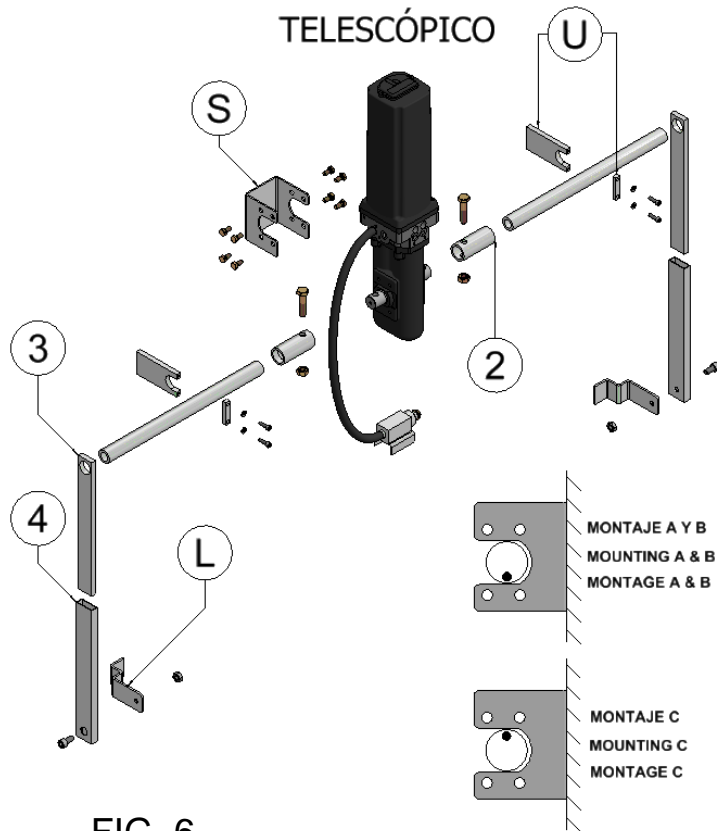

FIG. 6
### Installation accessories Figure 6.
1. Fix motor support "S" shown in figure 6 on the door in the position shown in figures 2, 3 or 4, depending on the mounting type.
3. Insert part "2" of figure 6 10mm into a transmission bar O/D 28mm and weld. This bar is not supplied with the mounting kit. (It is recommended that this bar is a pressure tube with wall thickness 4 or 5mm).
4. Position part "U" of figure 6 as shown in figures 2,3 or 4 such that the transmission bars are completely in line with the axis of rotation of the operator.
5. Fix supports "L" of figure 6 as shown in figures 2,3 or 4, depending on the mounting type.
6. Mount parts "4" of figure 6 to support "L" of figure 6 and insert parts "4" with part "3" of figure 6.
7. Insert the transmission bars welded to part "2" in the hole of part "3" figure 6. Mount the transmission bars in the operator and fix them with parts "U".
8. The point marked on the rotary shaft on the right-hand side of the operator 1RM\* and 2RMI\* must be as shown in figure 6, depending on the mounting type. Before welding parts "3" to the transmission bars the operator should be rotated approximately 5 degrees away from the end position. With the door completely closed, proceed to weld.
10. Open the upper cover (marked "1" in figure 6) which gives access to the connection terminals and connect as shown in figure 8.